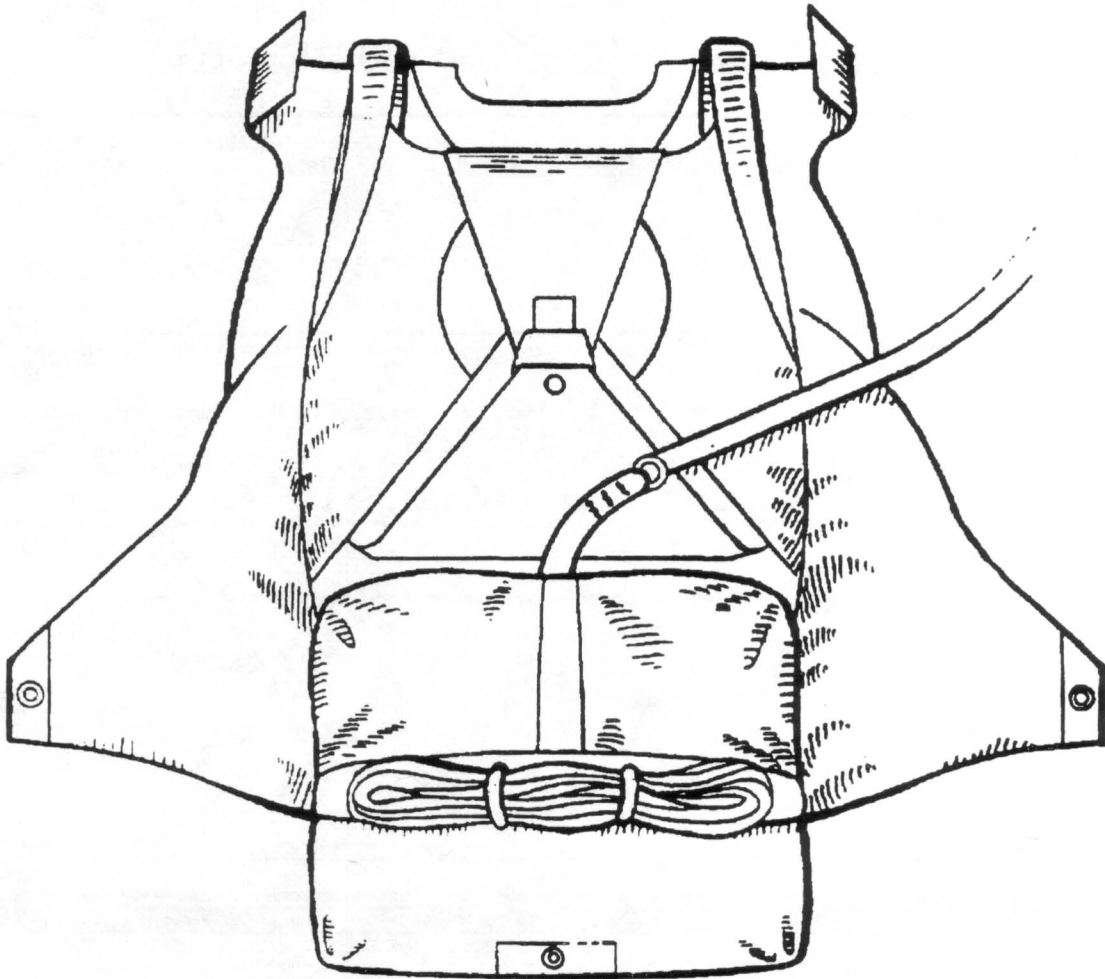

FIG. 7
- 10) Lay the risers in the "trough" between the sides of the reserve container and the riser covers. DO NOT PULL RISERS TIGHT ACROSS SHOULDERS so not to put added pressure on tuck tabs which may cause them to open in freefall. Place the bag in the container with the line stows toward the bottom. This position is important; if the line stows are toward the top, it may be more difficult for the pilot chute to extract the bag. (FIG. 7)